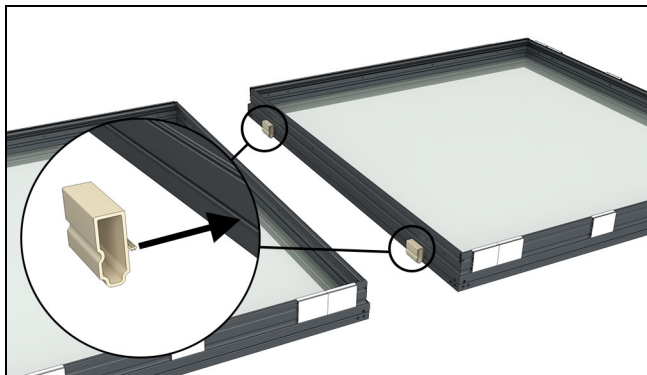

Figure 74
4. Temporarily attach mull filler blocks about 6" from frame ends. The blocks will barb into the nail fin kerf as shown in Figure 74.